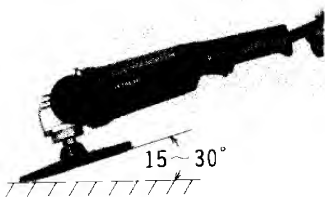

Fig. 2
2. Rather than applying the entire disc surface to the metal surface to be ground, use the sander by inclining it approximately  $15^{\circ} \sim 30^{\circ}$  to grind with the disc peripheral portion. (Fig. 2)